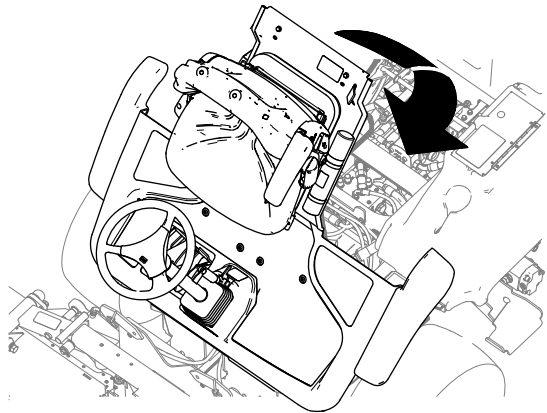

Figure 12
1. Lower the platform carefully (Figure 12).